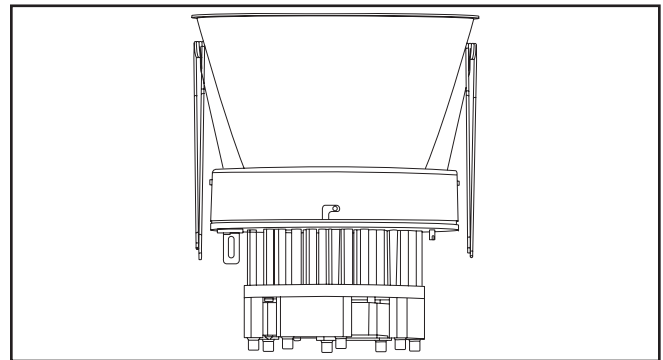

Figure 4.
4. Using provided thumb screws, securely attach lower trim to LED Engine. Align Power Plug from LED Engine with cylinder housing connector and push together. Electrical connection has now been made (Figure 4.).